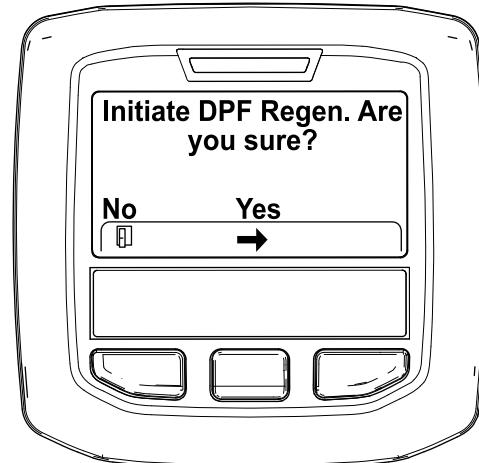

Figure 28
- When the "Initiate DPF Regen. Are you sure?" message displays, press the center button (Figure 28).